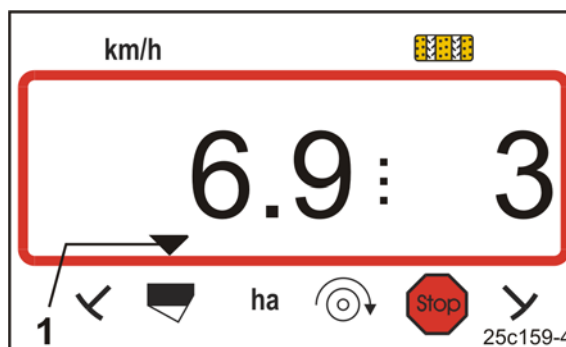

Fig. 274
- A message box appears on the control terminal. For example, the control symbol for the fill level is marked on the AMALOG⁺ (Fig. 274/1).